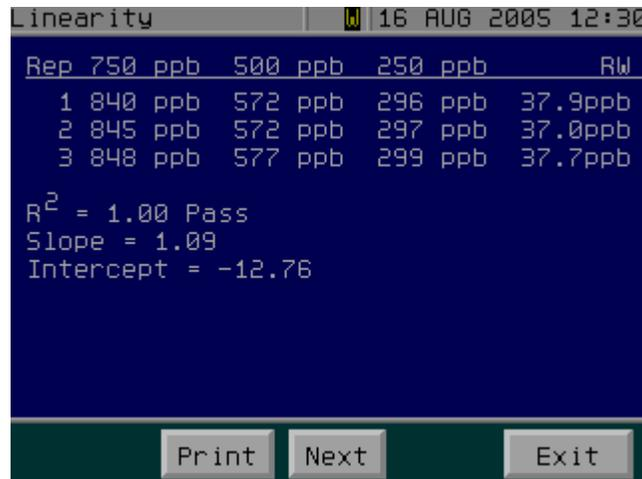

Figure 31: The Linearity Summary Screen, Part 1
6. After the last standard has been analyzed, the first linearity summary screen is displayed (see Figure 31). The Analyzer indicates if the linearity passed based on the following criterion: